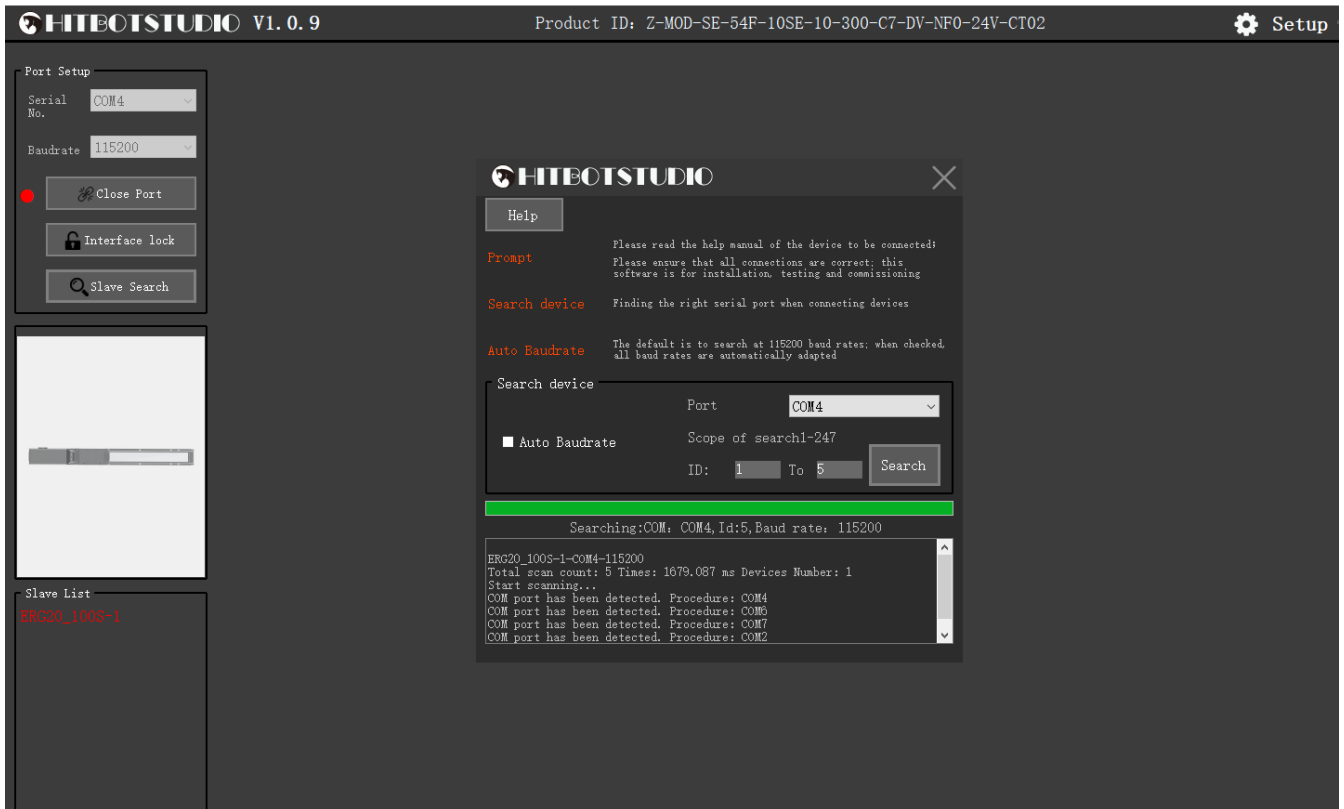

Figure 3-42
1. After finishes searching for the gripper in the device search and connection module, clicking on the corresponding device in the slave list will take users to the gripper module interface in the HitBotDrive. Figure 3-42 shows the interface when the gripper is found.